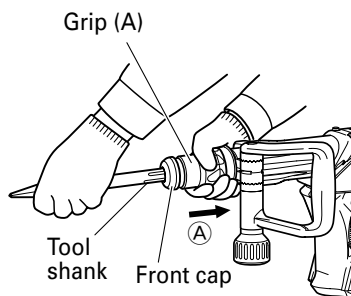

Fig. 2
- As shown in Fig. 2, pull grip (A) in the direction of (A), and insert the tool into a hole of the front cap.
- Release grip (B) and turn the tool, and make sure that it is locked completely.
As shown in Fig. 2, pull grip (A), and pull out the tool.